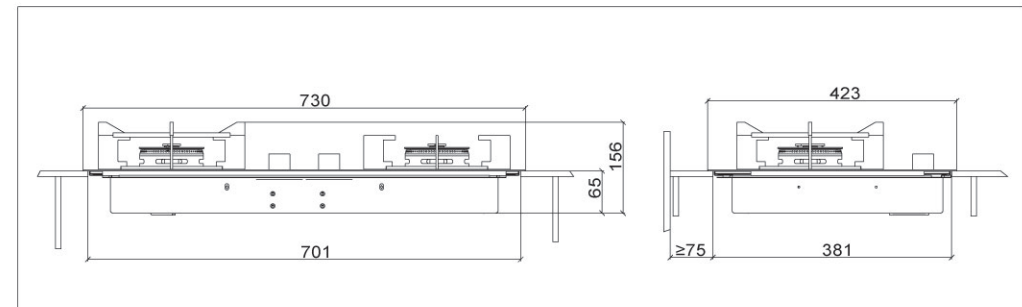

Fig.9
1. The stove should be installed into durable and horizontal kitchen countertop. The built-in size of the countertop can be referred to Fig.9. Make sure the distance aparting from the inflammable matters (intine) must be more than 150mm, and aparting from noncombustible matters more than 50mm.